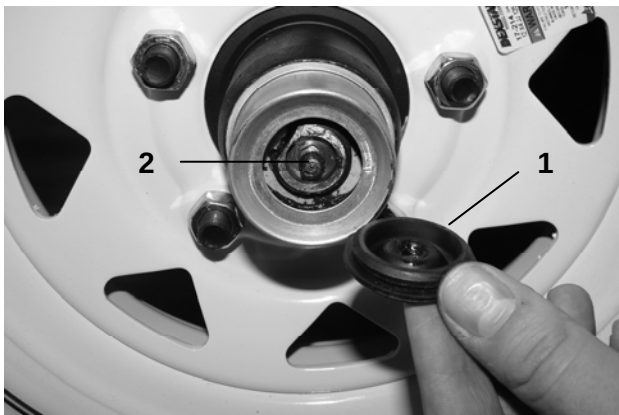

Figure 21
1. The wheel bearing grease zerk is accessible behind the rubber plug of the dust cover (Figure 21).